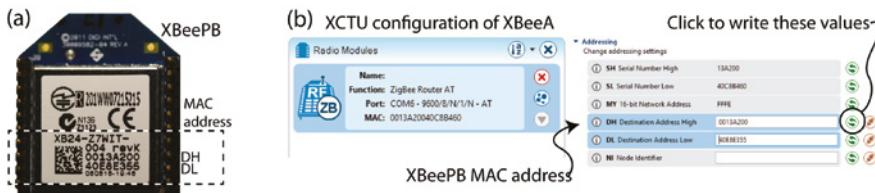

Figure 12-12: Configuring the Arduino XBee to connect to the PocketBeagle XBee Device: (a) the PocketBeagle XBee, and (b) Arduino XBee XCTU settings
- Change the serial baud rate (BD) to 115,200. XCTU updates the device settings when you write this value to the XBee.
- Read the destination address (DH/DL) from the bottom of the XBeePB (see Figure 12-12a) and enter it as the destination address for XBeeA: DH as 0013A200 and DL as 40E8E355 in my case, as illustrated in Figure 12-12(b).